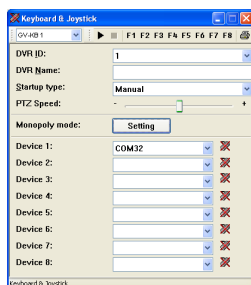

Figure D-1
3. Click the **Start Service** button ► (Figure D-1) and then you can use the GV-Joystick to control the PTZ camera.
1. Run **mcamctrl.exe** from the Control Center program folder. The Keyboard & Joystick dialog box (Figure D-1) appears.
7. Click the **Start Service** button ► (Figure D-1). Now you can use the GV-KeyBoard to control Matrix View.